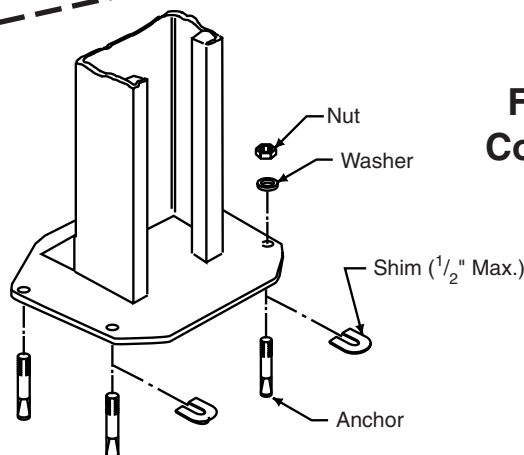

Fig. 18
4. Insert anchors with washers, Fig. 18. 3/4" anchors must have a minimum anchor embedment of 3-1/4". If the top of the anchor exceeds 2-1/4" above the floor grade, you DO NOT have enough embedment.